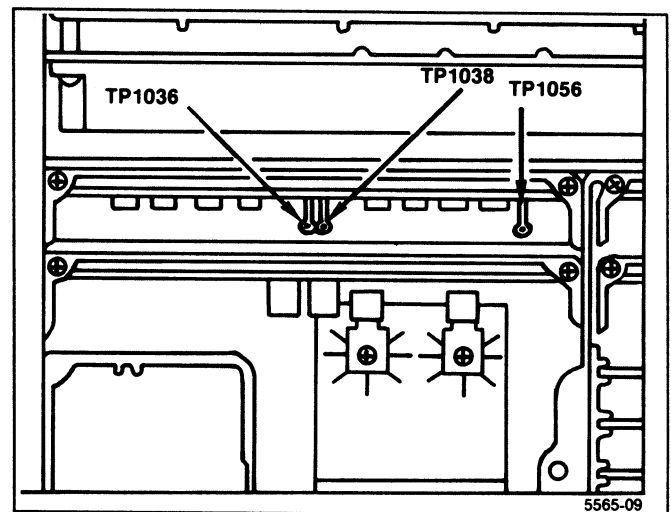

Figure 5-5. Test points on the CRT Readout board.
i. Disconnect the voltmeter, set TIME/DIV to AUTO, change the test oscilloscope to Ext Trigger, and apply the Readout Off signal at TP1038 on the Crt Readout board (Figure 5-5) to the test oscilloscope Ext Trigger input. Set the test oscilloscope Time/Div to 2 μ.